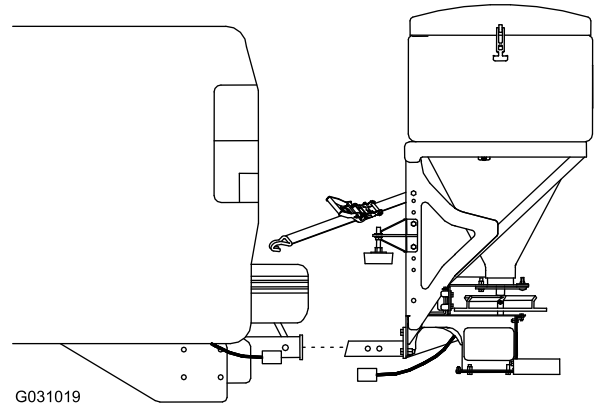

Figure 17
2. Slide the hitch of the spreader into the receiver hitch of your vehicle and line up the second hole on the spreader hitch with the hole in the hitch of your vehicle (Figure 17).